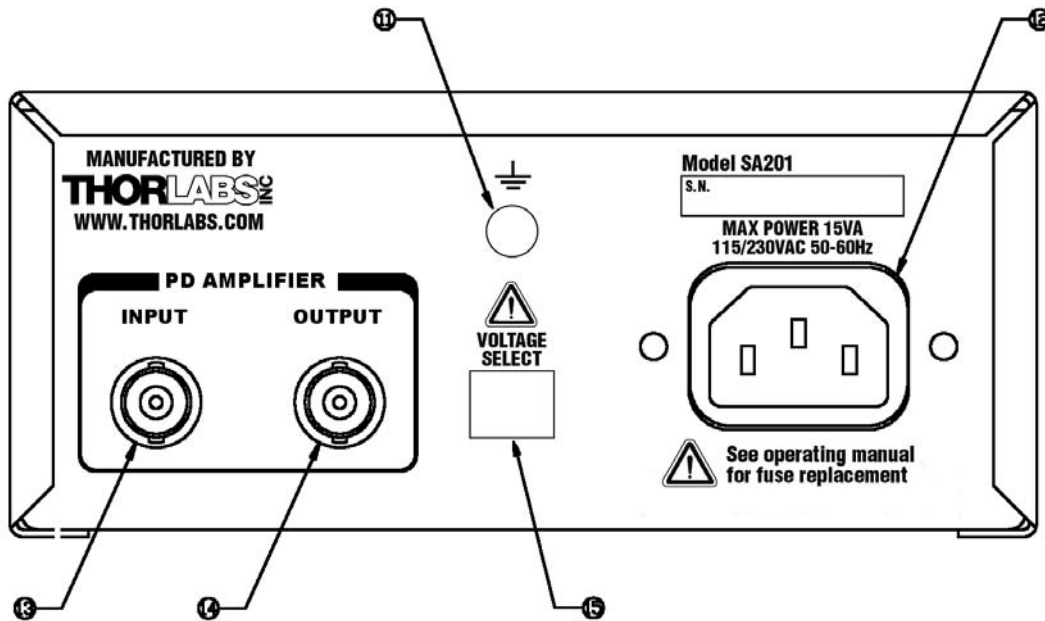

Figure 5- SA201 Rear Panel
2. Locate the voltage selector switch on the rear panel. See Figure 5 leader 15.